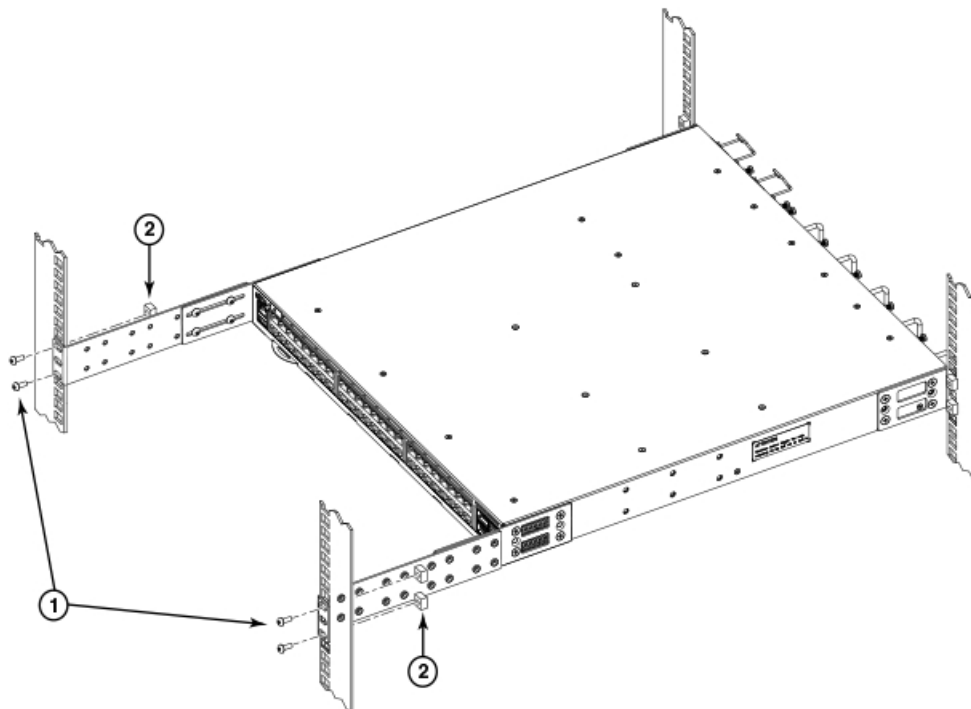

Figure 14. Attaching the rear brackets to the front rack posts
1. Attach the right rear bracket to the right front rack post using two 10-32 x 5/8-in. screws and two retainer nuts, as shown in Figure 14. Use the upper and lower holes in the bracket.